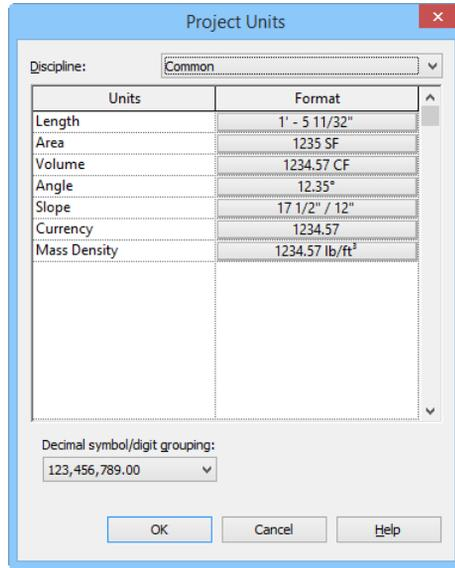

Figure 2-3 The *Project Units* dialog box
Units are important parameters in a project. While installing Revit, you are prompted to set the default unit as Imperial (feet and inches) or Metric (meter). The default selection of units helps you open project with the specified/selected unit system. However, you can change the default unit set system. To set units, choose the **Project Units** tool from the **Settings** panel of the **Manage** tab; the **Project Units** dialog box will be displayed, as shown in Figure 2-3. Project units are grouped into six disciplines: **Common**, **Structural**, **HVAC**,
**Electrical, Piping, and Energy.** Each discipline has a set of measurement parameters. You can select any of these disciplines from the **Discipline** drop-down list of this dialog box. In this drop-down list, the **Common** option is selected by default. As a result, various measurement parameters such as **Length, Area, Volume, Angle, Slope, Currency,** and **Mass Density** will be displayed in the **Project Units** dialog box. The **Format** column in the dialog box displays the current unit format for the corresponding parameter. You can preview and select the possible digit grouping and decimal separators from the **Decimal symbol/digit grouping** drop-down list located at the lower left corner of the dialog box, refer to Figure 2-3. The options for settings various measurement units are discussed next.